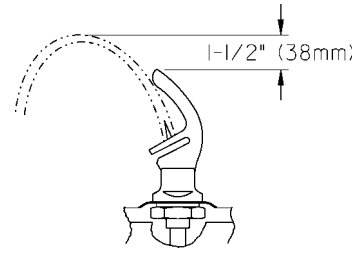
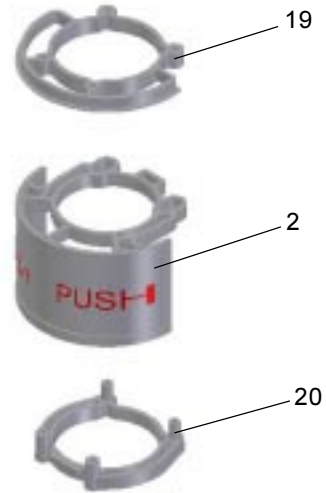
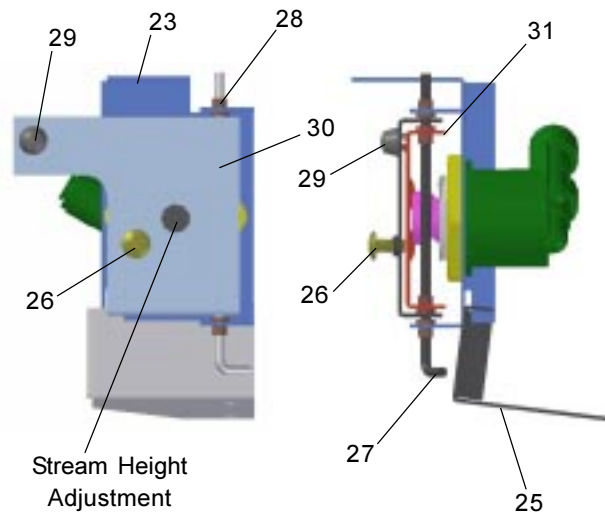
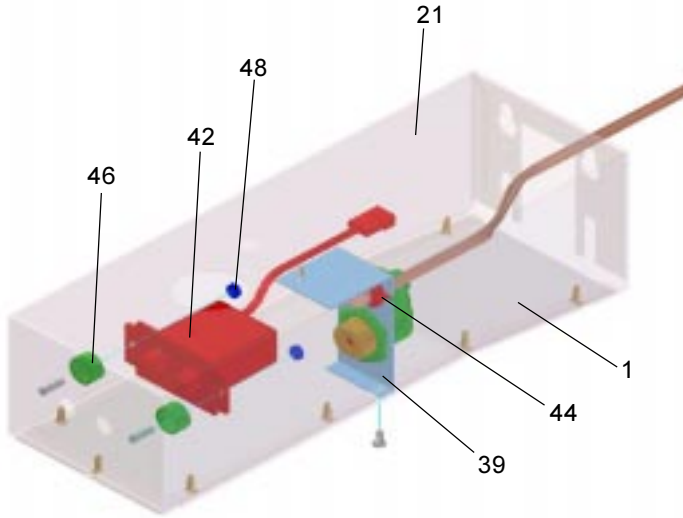

Figure 16 – Stream Height
Figure 20 – Push Arm Mechanism
Figure 21 – Regulator Mounting Mechanism
Figure 25 – View of Electronic Sensor
14. Check stream height from bubbler. Stream height is factory set at 35-40 PSI. If supply pressure varies greatly from this, please do the following. For **Pushbar units only**, remove items 2, 19, and 20 (push arm and the bottom and the top actuator plates – Figure 20) by removing the screws holding assembly together and adjust the screw on the regulator (Item 14 – Figs. 21 & 22). Clockwise adjustment will raise stream height and counterclockwise movement will lower stream height. For **Electronic sensor units only**, remove bottom access panel and turn adjustment screw on the regulator (Item 14 - Figs. 25 & 27). Clockwise adjustment will raise stream height and counterclockwise movement will lower stream height. For best adjustment, stream height should be approximately 1-1/2" (38mm) above the bubbler guard. (See Figure 16).
15. Mount lower panel. Loosen the two (2) #10-24 x 5/8" (16mm) screws at frame bottom lip. Slide upper tongue of lower panel under lower edge of already installed upper panel. Tighten previously loosened screws securely.